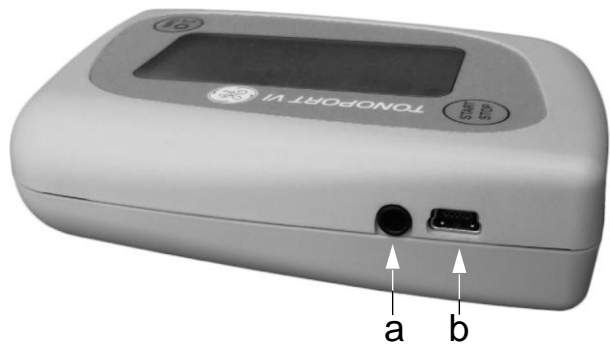

Fig. 5-1 Connections for PC cable
- via cable 2001589-040 if the USB port of TONOPORT VI is used (**b**, Fig. 5-1)
- via cable 2001589-011 if the serial port of TONOPORT VI is used (**a**, Fig. 5-1)
*If you will be using the serial port of TONOPORT VI (a, Fig. 5-1), installation is now complete.*
*To be able to use the USB port of TONOPORT VI (b, Fig. 5-1), you need to install the USB driver and check the communication as described below.*